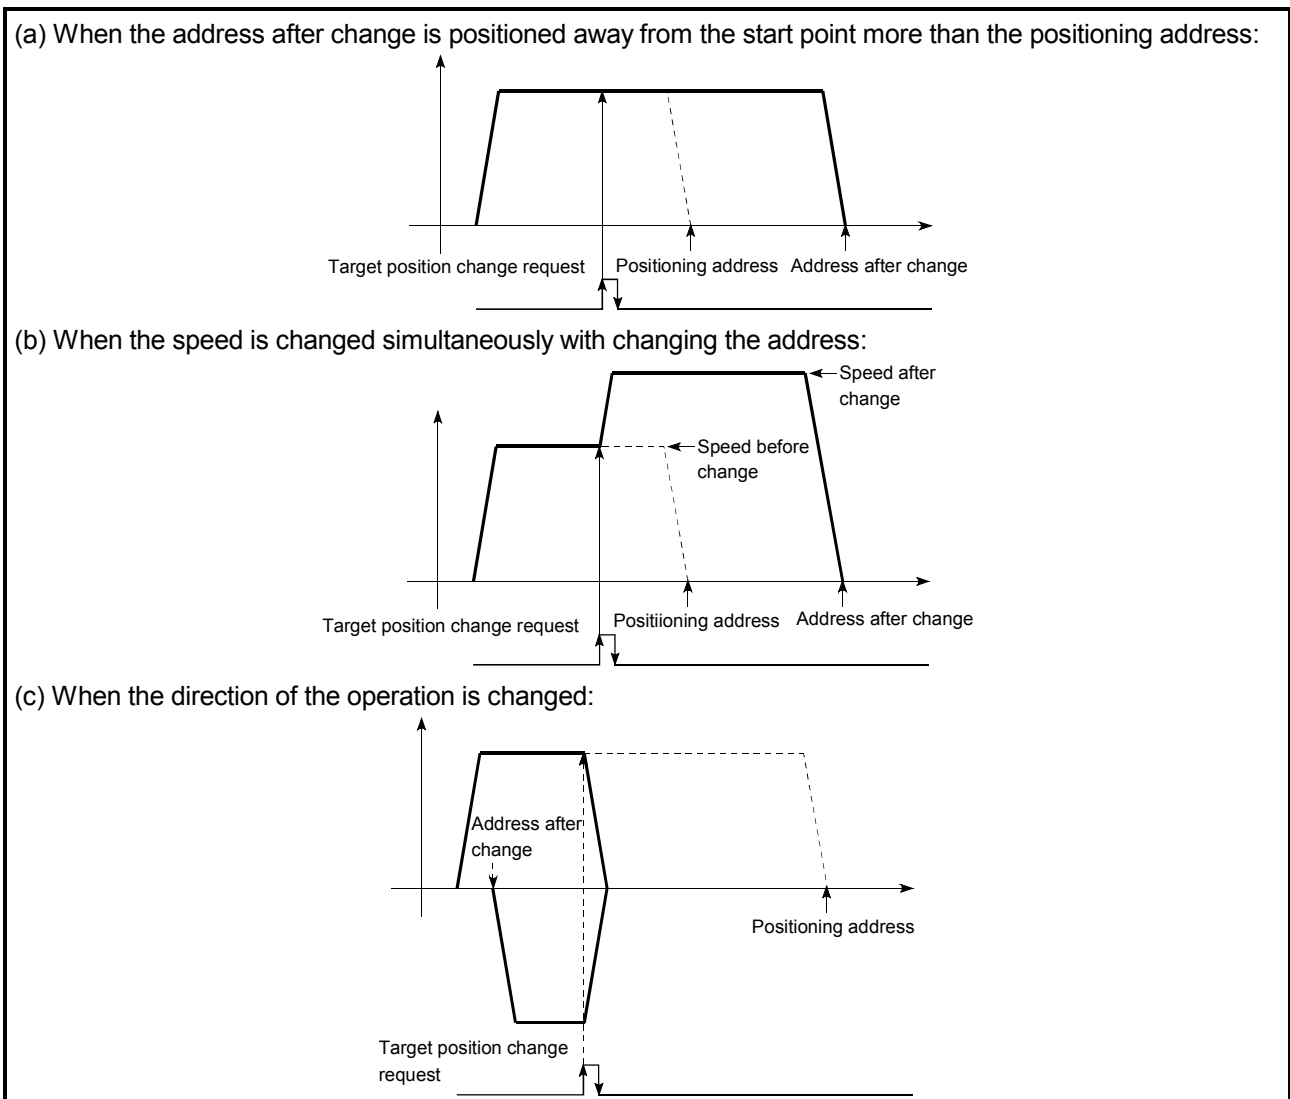

Fig. 12.31 Target position change operation
- (1) If the positioning movement direction from the stop position to a new target position is reversed, stop the operation once and then position to the new target position. (Refer to Fig. 12.31 (c).)
- (2) If a command speed exceeding the speed limit value is set to change the command speed, the warning "Speed limit value over" (warning code: 501) will occur, and the new command speed will be the speed limit value. Also, if the command speed change disables the remaining distance to the target value from being assured, the warning "Insufficient remaining distance" (warning code: 509) will occur.
- (3) In the following cases, the target position change request is ignored, and the warning "Target position change not possible" (warning code: 518) will occur.
- (4) When a command speed is changed, the current speed is also changed. When the next positioning speed uses the current speed in the continuous positioning, the next positioning operation is carried out at the new speed value. When the speed is set with the next positioning data, that speed becomes the current speed and the operation is carried out at the current speed.
- (5) When a target position change request is given during automatic deceleration in position control, positioning control to a new position is exercised after the axis has stopped once if the moving direction is reversed. If the moving direction is not reversed, the axis is accelerated to the command speed again and positioned to the new position.
- (6) If the constant speed status is regained or the output is reversed by a target position change made while "Md.48 Deceleration start flag" is ON, the deceleration start flag remains ON. (For details, refer to Section 12.7.8.)